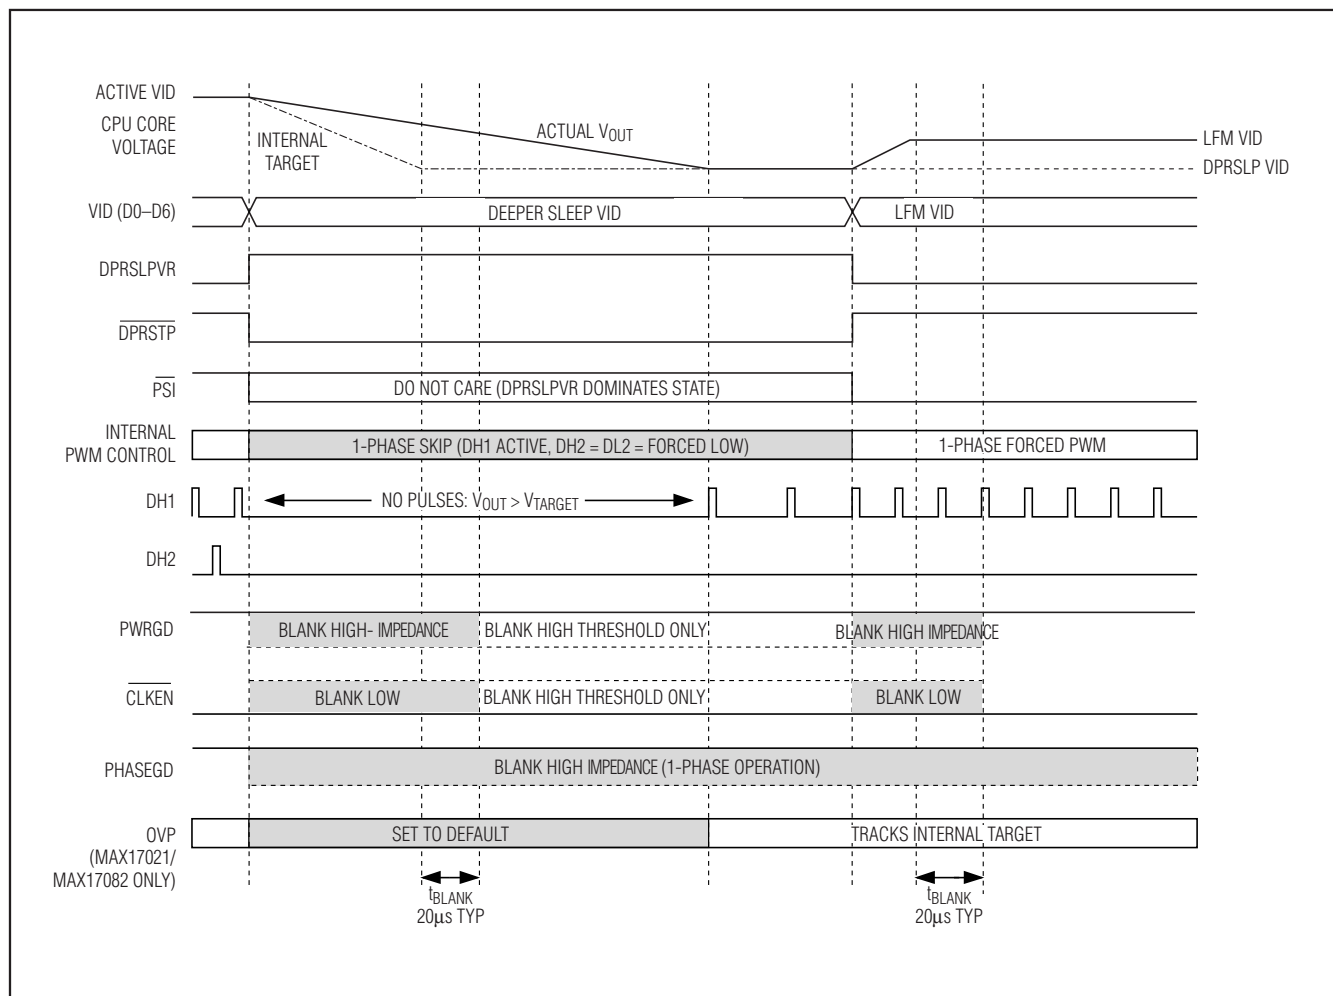

Figure 6. Standard C4 Transition
- Standard C4 Deeper Sleep Exit:** When exiting deeper sleep (DPRSLPVR pulled low) while the output voltage is regulating to the deeper sleep voltage, the MAX17021/MAX17082/MAX17482 immediately activate all enabled phases and ramp the output voltage to the LFM DAC code provided by the processor at the slew rate set by R_{TIME}. The controller blanks PWRGD, PHASEGD, and CLKEN until 20μs after the transition is completed. See Figure 6.